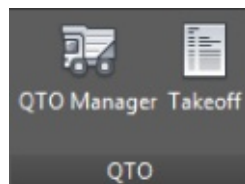

Figure 17.1 The QTO tools on the Analyze tab
2. From the Analyze tab ➤ QTO panel, choose QTO Manager (see Figure 17.1) to display the QTO Manager.